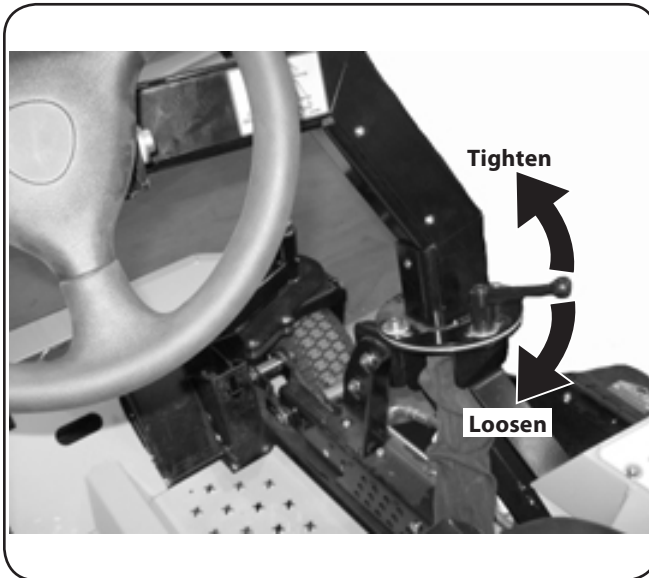

Figure 3-7
1. Pull the adjustment lock lever back toward the operator's position to loosen the column. See Fig. 3-7.